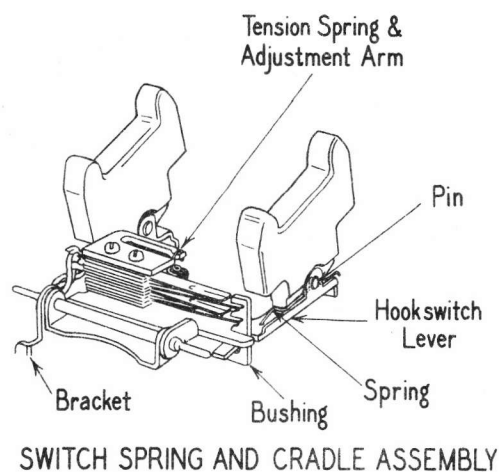

Fig. 15
6.01 The switch spring and handset cradle assembly are illustrated in Fig. 15. A removable transparent plastic cover not shown in the illustration, fits over the switch spring assembly. Each contact spring is equipped with double contacts.
6.05 HOOK SWITCH LEVER TENSION SPRING ADJUSTMENT. Tension spring and adjustment arm are shown in Fig. 15. To increase tension, bend adjustment arm upward; to decrease tension, bend arm downward. To check spring tension, remove plastic housing from telephone and place handset on cradle; hookswitch lever should rest either on shoulder of mounting bracket or on case of coil and capacitor assembly. With handset off cradle, hookswitch lever should contact lever stop located on bracket directly below tension spring adjustment arm. To increase or decrease upward travel of hookswitch lever, bend lever stop up or down.